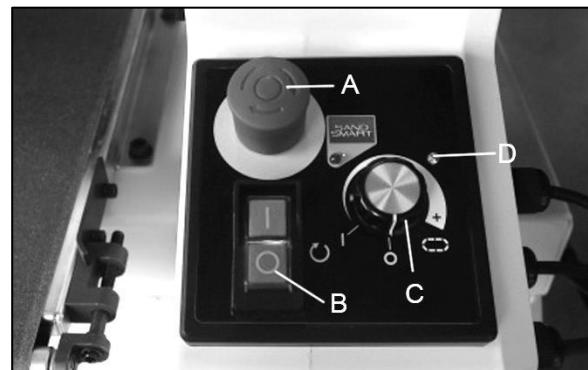

Figure 9-1: control panel
2. Disengage emergency stop by clockwise turning the red button or pulling it up (A, Figure 9-1).